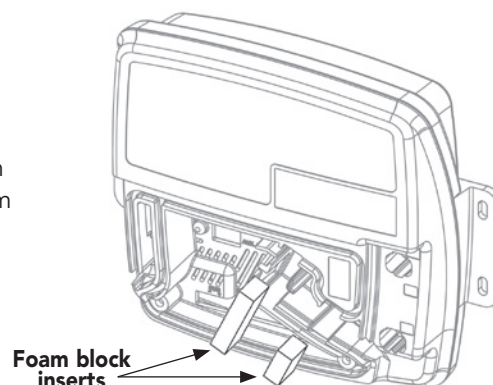

Figure 8
3. Remove the two foam block inserts from the inner wiring channels and set aside (**Figure 8**).